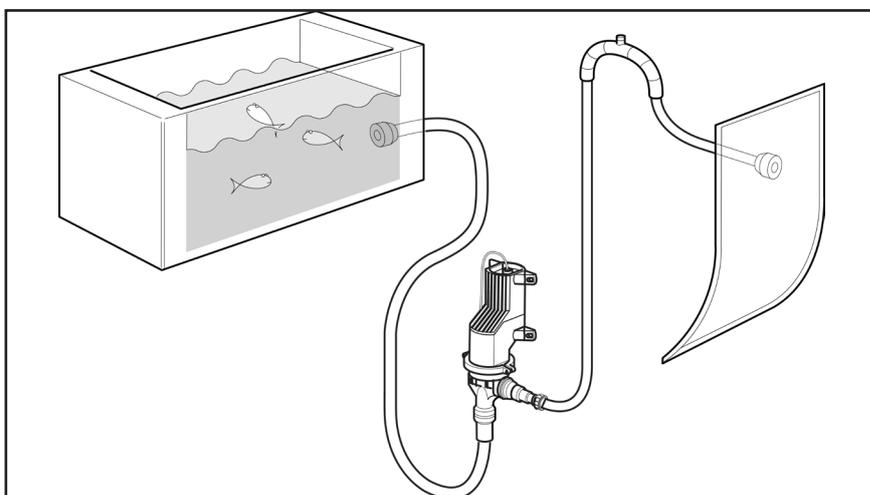

Figure 2 - Typical Installation
- The Whale® Gulper® Grouper pump **must be** installed at or below the level of the fish box drain (Fig 2). The opening for the fishbox drain **must** include a grid, with openings no greater than 19mm x 19mm.
- The pump **must not** be mounted below the water line when connected to an intake or outlet unless the system has a vented loop (Fig 2).